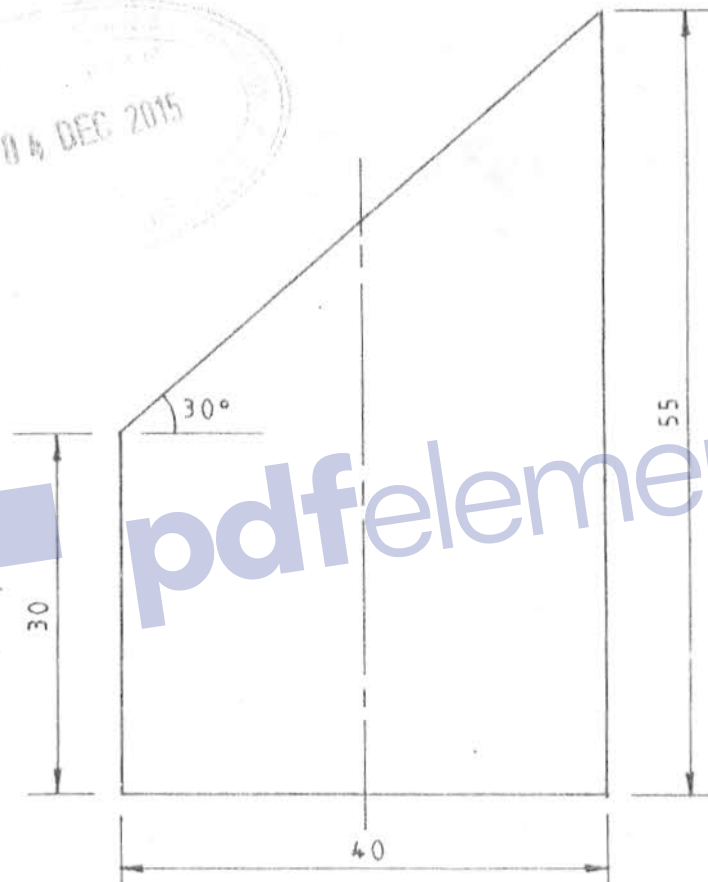

Fig. 4
7. Figure 4 shows an elevation of a truncated cylinder. Redraw full size the elevation and complete the following: